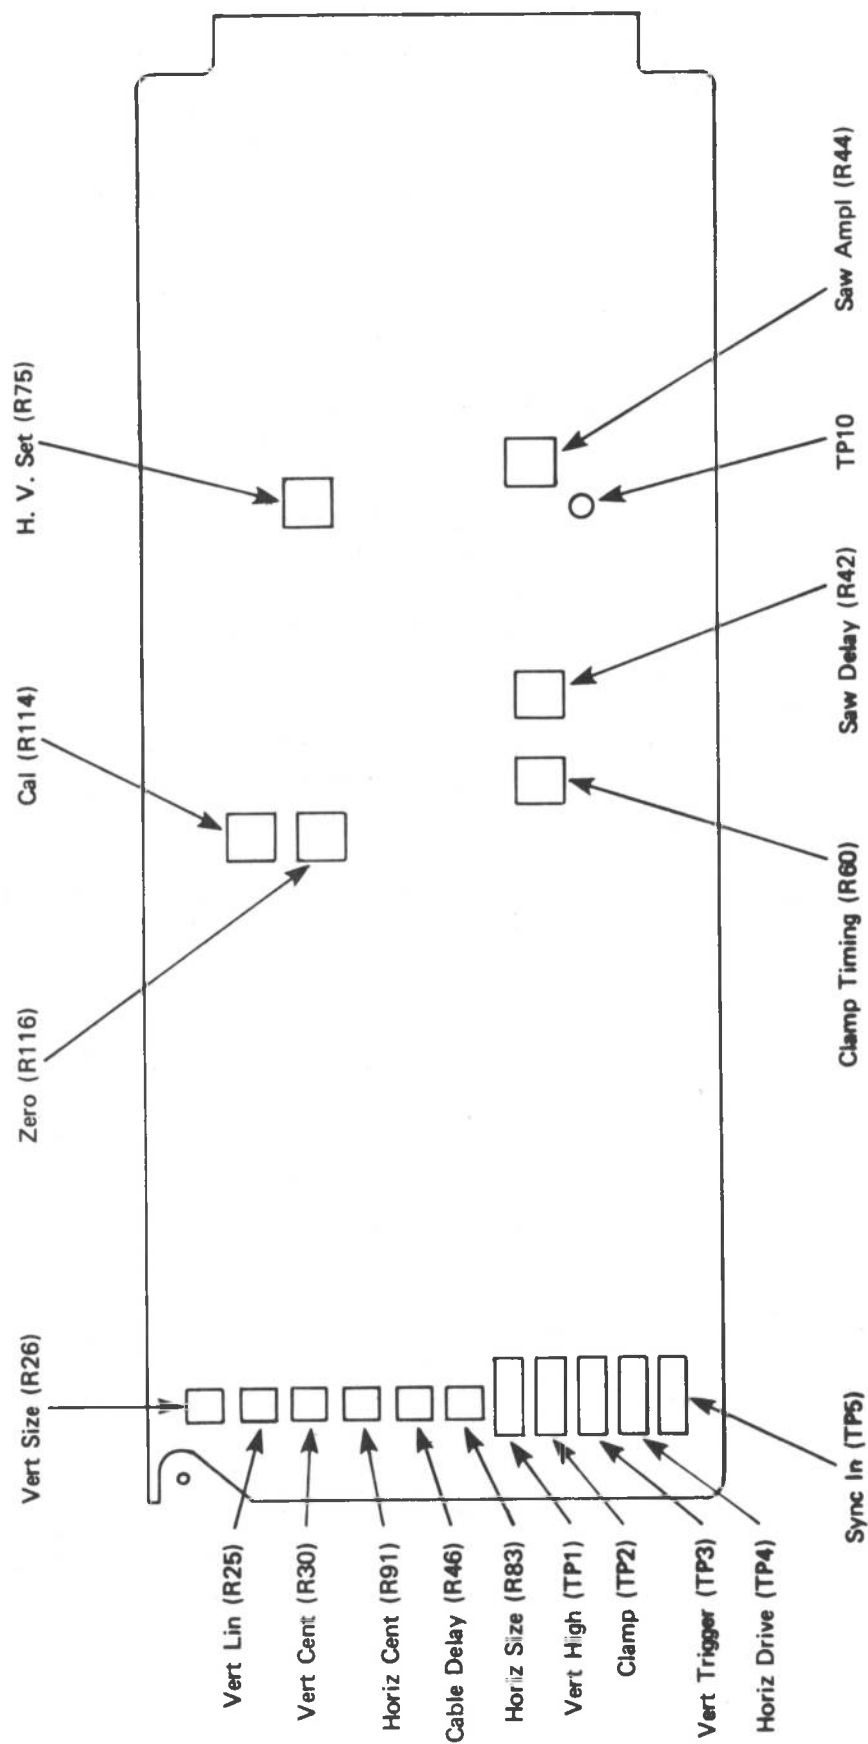
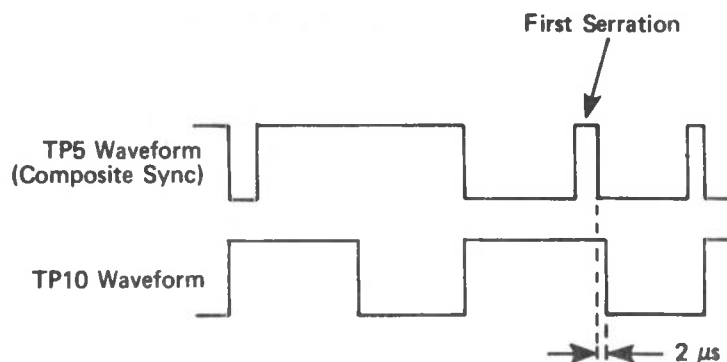

Figure 5-5. Locations of Adjustable Controls and Calibration Test Points
Figure 5-6. Correcting Timing of Waveform at TP10
The deflection board has 12 adjustable controls, the functions of which are listed in Table 5-1. To locate these controls use Figure 5-5 as a guide.
- b. At the deflection board (Figure 5-5) set ZERO control R116 so the meter on the front panel reads zero volts;
- d. Set SAW DELAY control R42 (Figure 5-5) so the leading edge of the first negative pulse occurring during the vertical sync interval at TP10 lags the trailing edge of the first serration in vertical sync in composite sync signal at TP5 by 2 microseconds, as in Figure 5-6;
- i. Using the H. SIZE, VERT SIZE, VERT LIN, VERT CENT AND H. CENT controls (R83, R26, R25, R30 and R91, Figure 5-5), frame the linearity test pattern on monitor raster so the points of the arrows along the edges of the test pattern just touch or slightly overlap the edges of the raster, and so all dots in the test pattern are inside their corresponding circles on the linearity chart; if all dots can be positioned in their respective circles the camera scan linearity is within $\pm 1\%$; if any of the dots touch the annulus of a circle the scan linearity is within 2% ; if any of the dots is outside its circle the linearity is $\pm 3\%$ or greater.